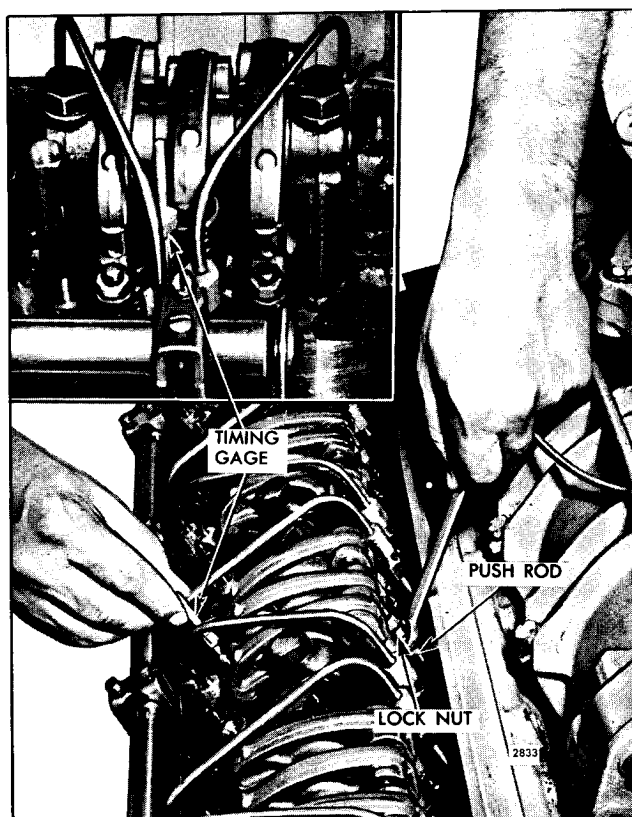

Fig. 1 - Timing Fuel Injector
3. Place the small end of the injector timing gage in the hole provided in the top of the injector body with the flat of the gage toward the injector follower (Fig. 1).